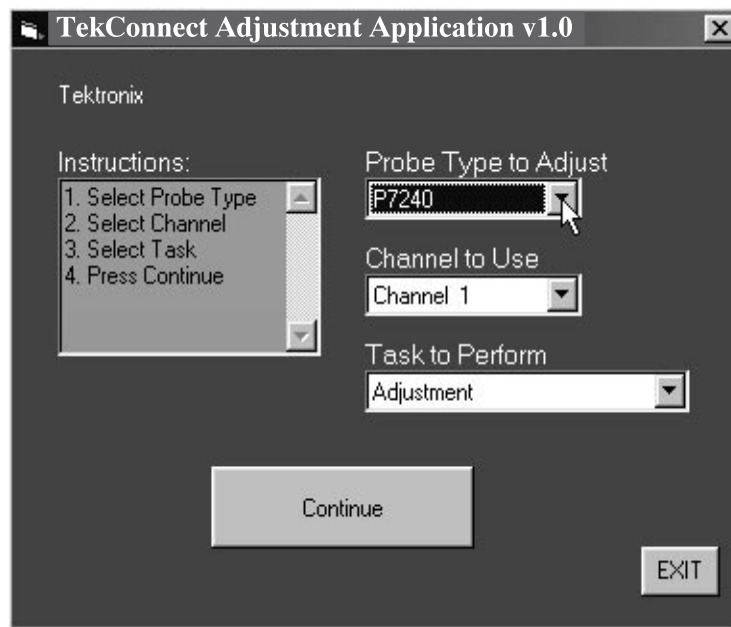

Figure 9: TekConnect probe adjustment application
8. When the application starts, the display appears as shown in Figure 9.